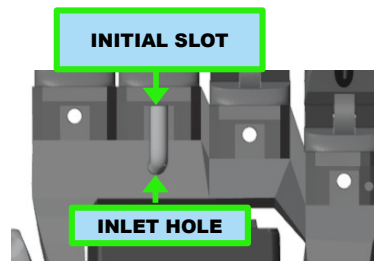

Figure 5.28: Inserting the tube into the circular slot (front view)
1. Insert one end of the PTFE tube into the initial slot (on the rear of the skeleton) of the extension tendon (figure 5.28)